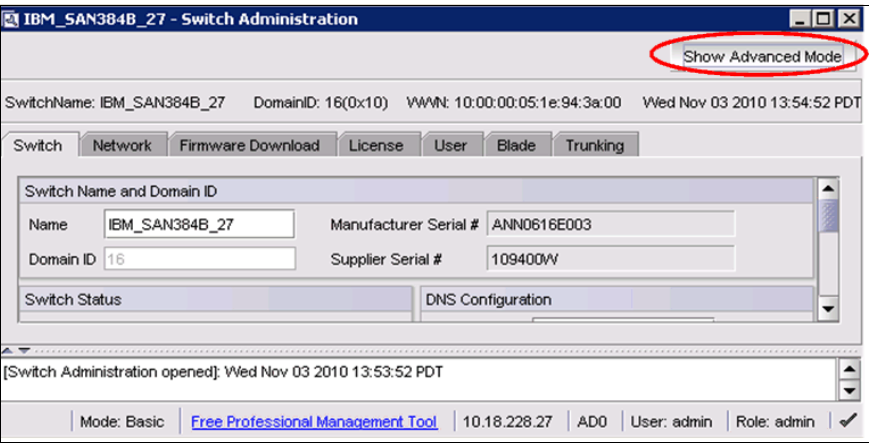

Figure 12-47 Advanced mode
2. Then, click **Show Advanced Mode** as shown in Figure 12-47.